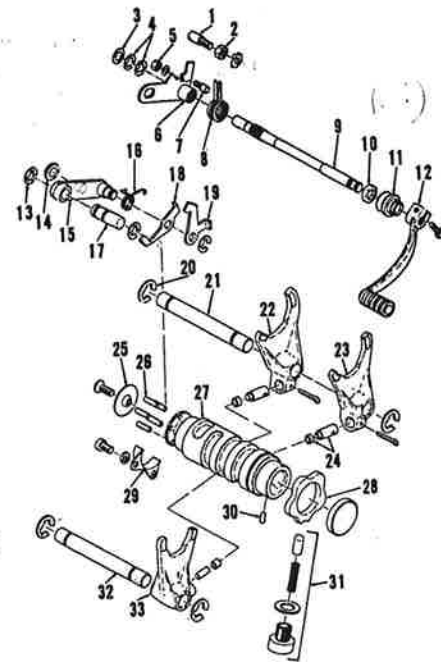
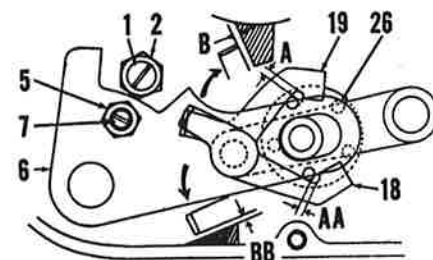

Fig. Y19-21—View of gearshift components used in early models.
Fig. Y19-24—View of shift mechanism adjustment points for shifter shown in Fig. Y19-21. Refer to text and Fig. Y19-21 for legend.
Early type shifter (Fig. Y19-21) is adjusted by turning eccentric pins (1 & 7—Fig. Y19-24). Loosen lock nut on eccentric (1) and move gear change pedal to full extent of travel in both